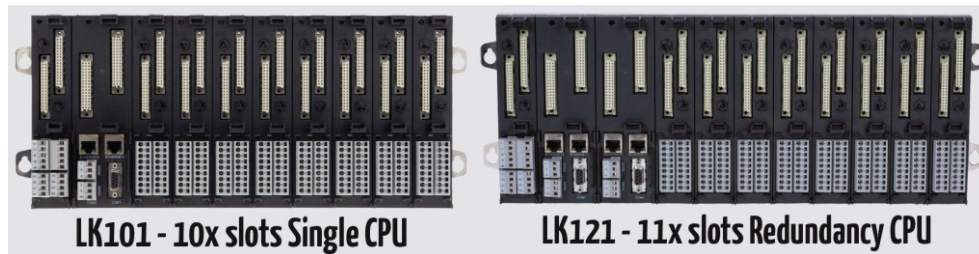

Figure 1.3: Local Backplane with build-in I/O terminal points
- Backplanes with build-in I/O terminal points. (refer to Figure 1.3)